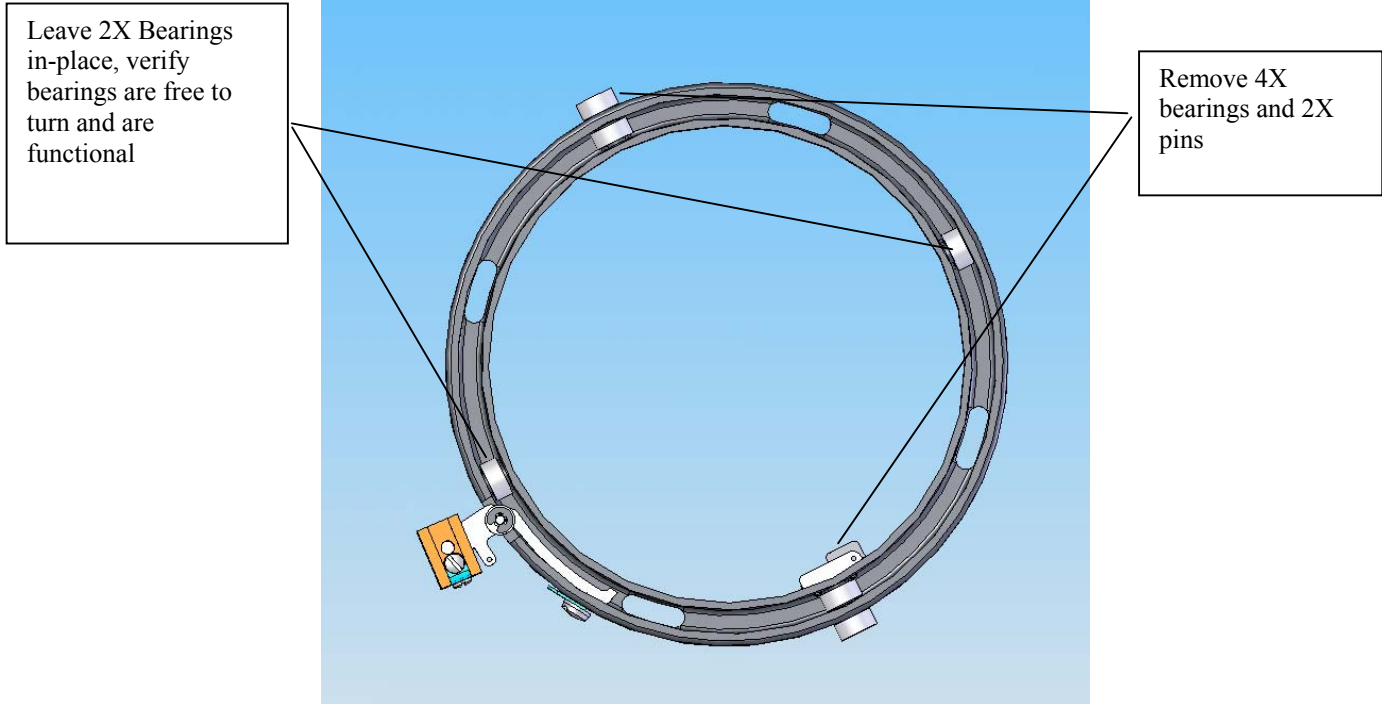

Figure 1: Bearing Removal
1. Carefully remove 2 X pins (.125 DIA X .375" Lg) and 4X Bearings by pressing out using special bearing removal tool. Keep all removed parts segregated and labeled so as not to be confused with new. See Figure 1 for bearing locations.
2. Verify 2X bearings that were left installed are turning properly. Move with finger. (See figure 1.)